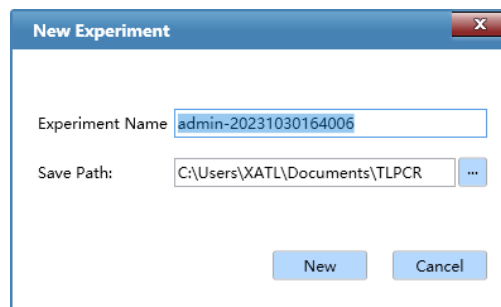

Figure D-2.1b Quick Start Bar - New Experiment
- Click < **New Experiment** > and the application software will automatically pop up the new experiment dialog box, as shown in figure D-2.1b. User can manually enter a name in the